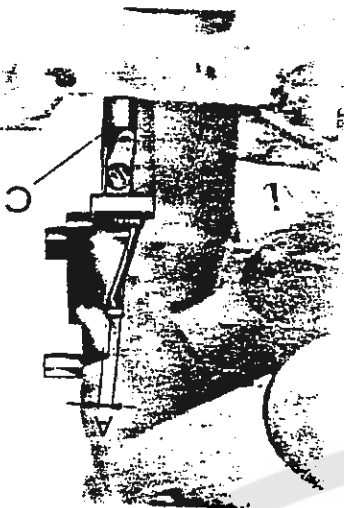

fig. 5
- Place timing gauge S. 1686.00 on milled surface of base as shown in fig. 5; shift lever C and turn looper (which has been set in place but not locked) until correct angle is obtained.